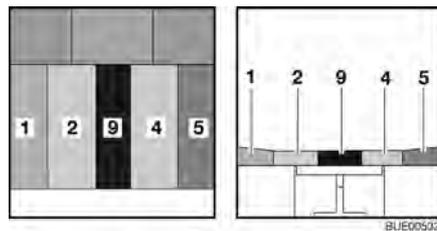

Fig. 88 After conversion
- Place the additional cushion (Fig. 88,9) between the seat cushions (Fig. 88,2 and 4).